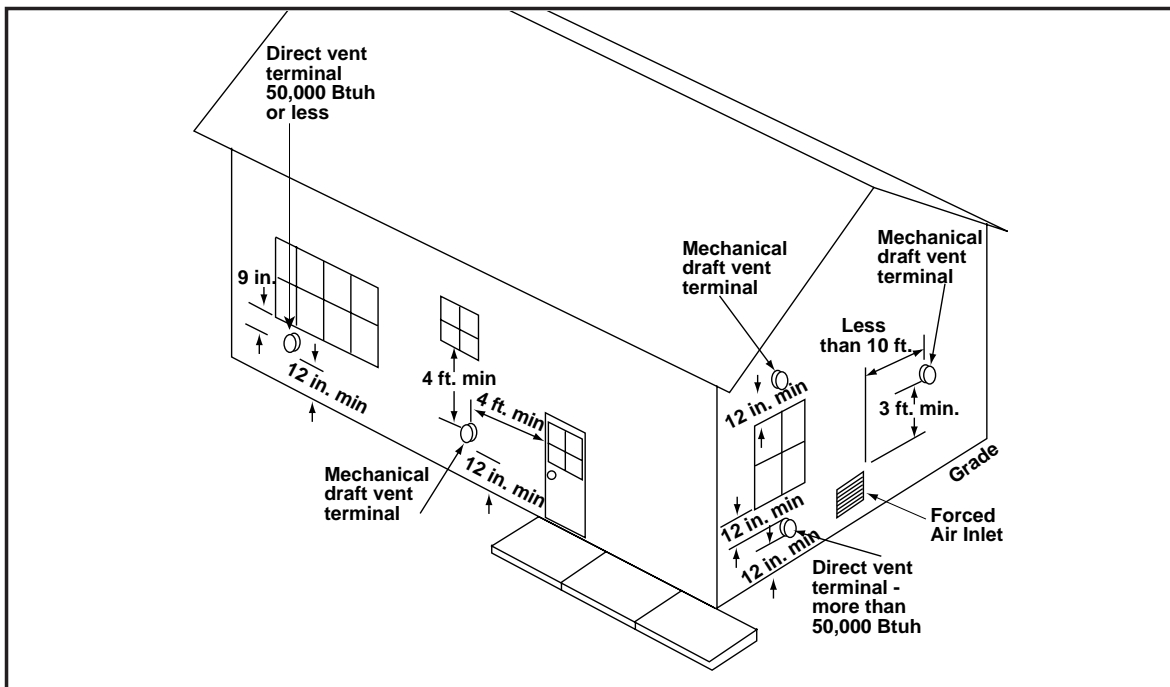

Figure 17. Vent Termination Clearances
Vent and combustion air intake terminations must be located to ensure proper furnace operation and to conform to applicable codes. Figure 17 illustrates necessary distances from the vent termination to windows and building air intakes. **In Canada, the Canadian Fuel Gas Code takes precedence over these instructions. Specifically, all minimum distance requirements with respect to termination of the vent piping listed below (items 1 through 8).**